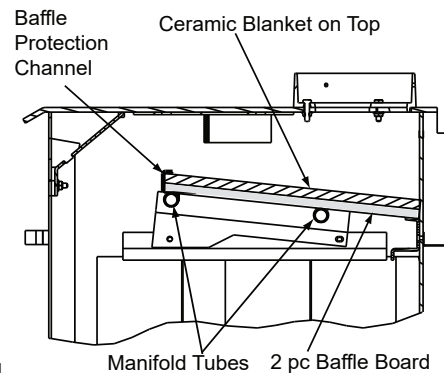

Figure 25.4
3. The baffle board has 2 pieces. With the ceramic blanket still in place, slide one baffle piece over the top of other one and pull out top piece through the door opening and then remove bottom baffle piece (**Figure 25.4**).